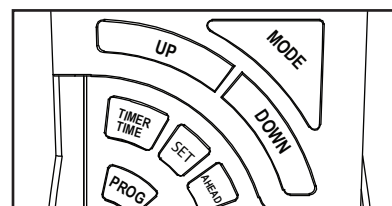
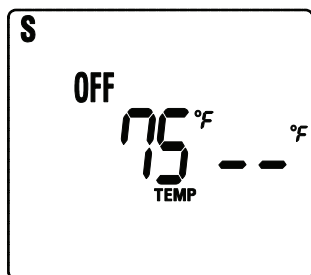

Fig. 7 Mode Button
Fig. 8 OFF Mode
To operate the transmitter, first press and release the MODE button (Fig. 7) until the LCD screen reads OFF in the display (See Fig. 8).
Step 4: Press the MODE button a fourth time to turn the appliance back OFF again as show in Fig. 8.